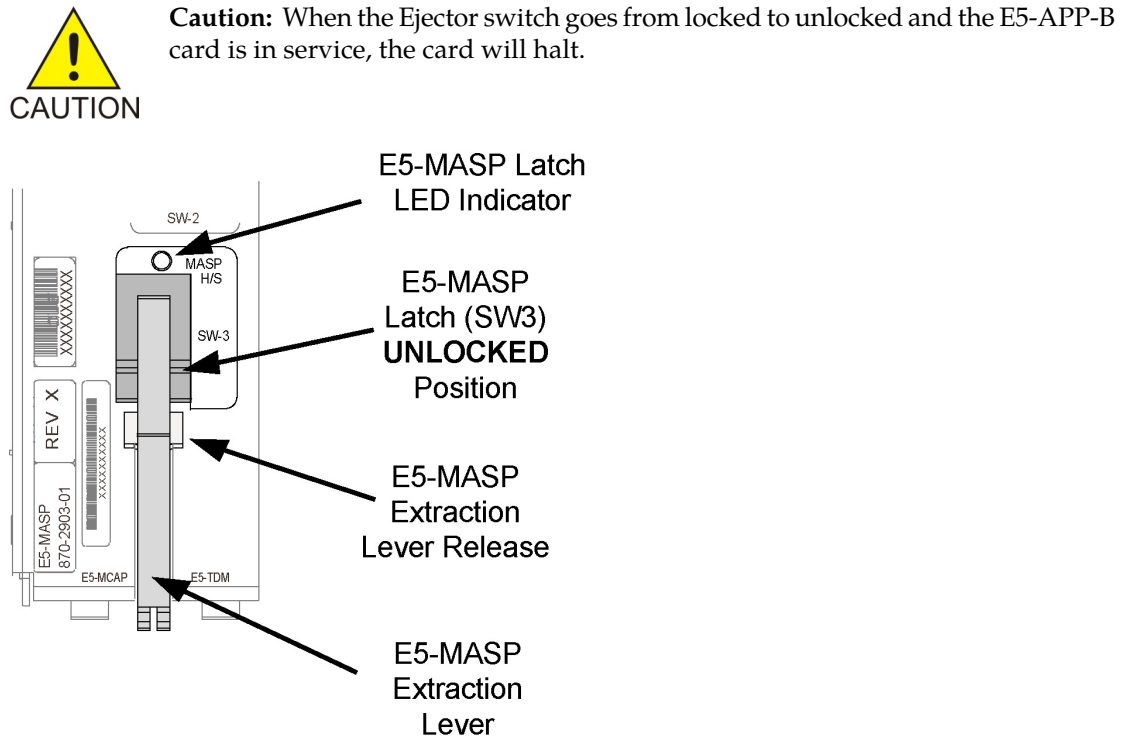

Figure 25: E5-MASP Card Inject/Eject Hardware Switch, UNLOCKED
- a) On the standby E5-MASP card determined in *Step 6*, slide the MASP H/S switch (SW3) up to the UNLOCKED position (see *Figure 25: E5-MASP Card Inject/Eject Hardware Switch, UNLOCKED*).